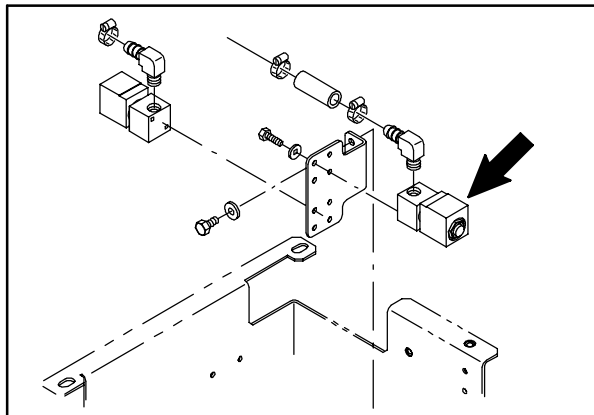

FIG. 2
10. Disconnect the fittings from the existing low level valve. Refer to Fig. 2.